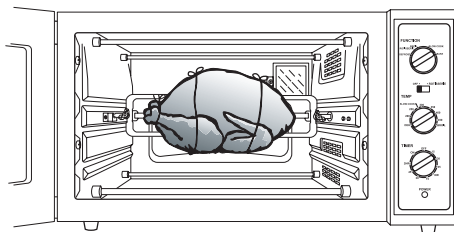

FIGURE 8
2. Carefully center the food on Rotisserie Bar using the Meat Tines to secure the food in place. (See Figure 8) If the food is not centered it will cause a jerking motion during cooking. This results in undue stress on the Motor.